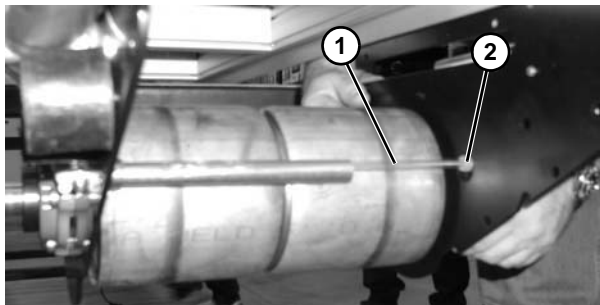

Figure 119
7. Disconnect flexible air hose (Figure 119, item 1) from fitting (Figure 119, item 2).